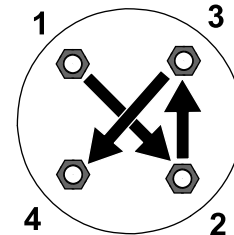

Figure 9
2. Torque the lugnuts (in a crossing pattern as shown in Figure 9) to 108 to 122 N·m (80 to 90 ft-lb).